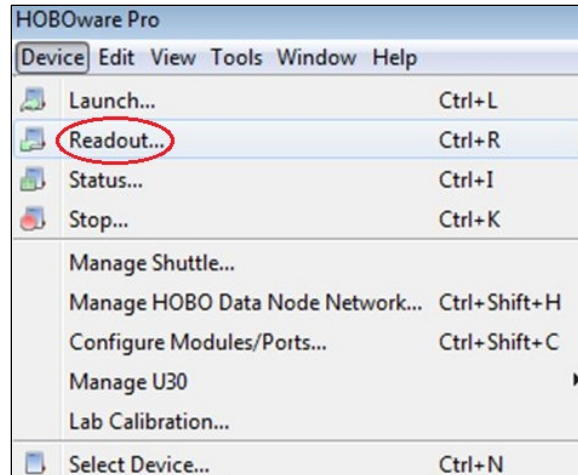

Figure B 8. Select Device/Readout.
4. Under the “Device” menu, select “Readout” (Figure B 8).